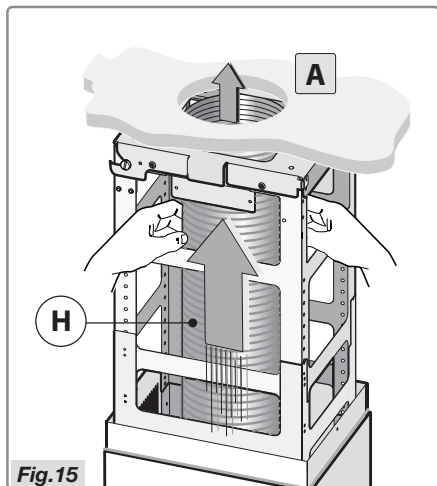

**Fig. 14**
- Take the safety bracket **L** and secure this to the ceiling plate with the two screws **M** as indicated in Figure 14 – steps 1-2.